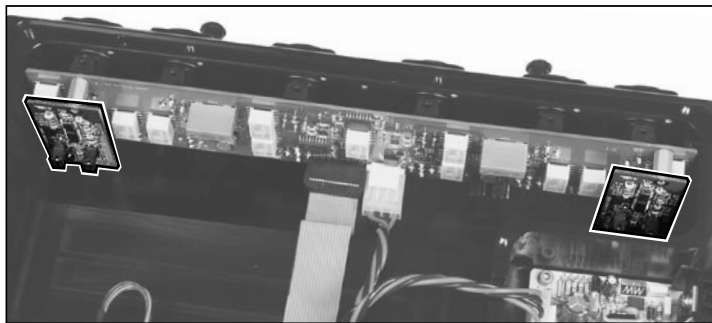

FIGURE 7: Location of both Phono Cards within the CONTINUUM chassis
**STEP 3:** Locate and remove the phono card from the back panel by easing it gently back and forth until it separates from the unit. (See FIGURES 7 and 8)